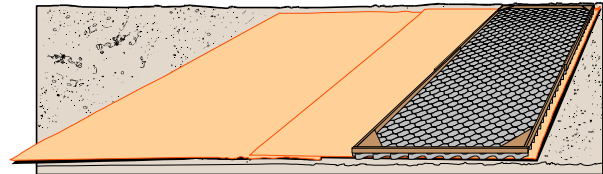

Figure 10 Use of Stretcher Frame
- **Option 3:** Expand and fit the GEOWEB section over the dowels of a suitably dimensioned stretcher frame. Invert the frame and position the section to receive infill material. When the GEOWEB section is filled, remove the frame, and repeat the process. See Figure 10.